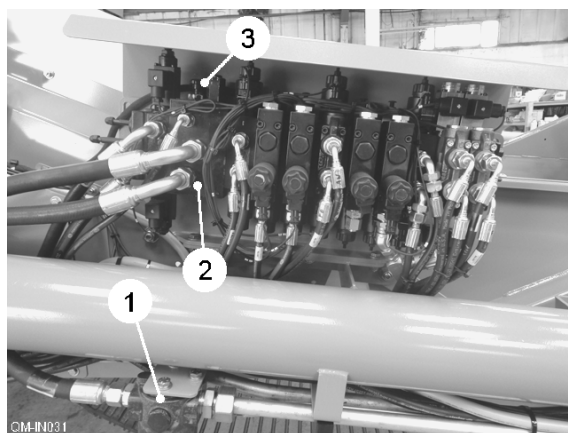

Fig. 25
The hydraulic ram services and discharge elevator motor drive are supplied with hydraulic oil from the tractor. The oil is fed through the pressure filter (item 1, fig. 25) into the inlet of the auxiliary valve bank (item 2, fig. 25). The elevator motor valve has priority over the ram service valves. The return oil flow from the valves and motor recombines and is returned to the tractor, ideally through a low back pressure or free-flow return coupling. No separate relief valve is fitted to the auxiliary circuit, the system relies totally on the tractor relief valve.
The main hydraulic valve bank incorporates an adjustable screw (item 3, fig. 25) which enables easy changing from closed-centre to open-centre.